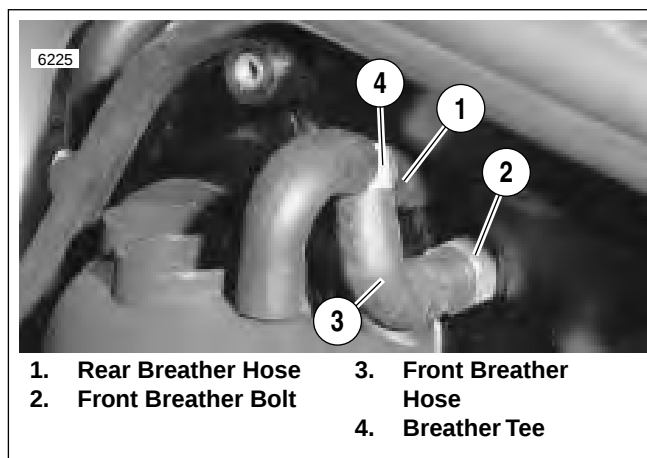
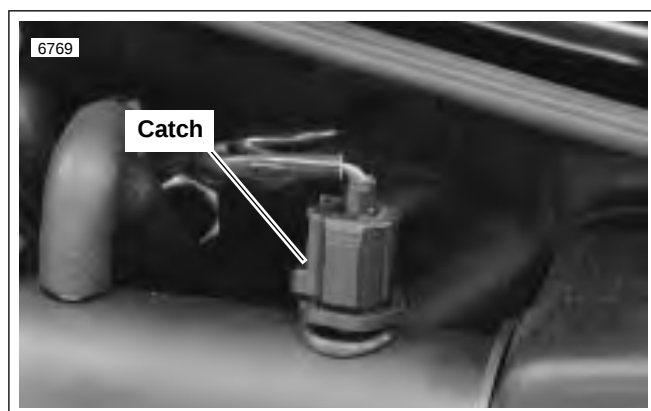

Figure 4-104. Breather Hoses
Figure 4-105. IAT Sensor
7. See Figure 4-104. Disconnect hoses.
- a. Detach breather tee (4) from rear breather hose (1).
- b. Detach front breather hose (3) from front breather bolt (2).
- a. See Figure 4-105. Press the catch on the intake air temperature (IAT) sensor.
5. Attach IAT sensor to snorkel. See Figure 4-105.